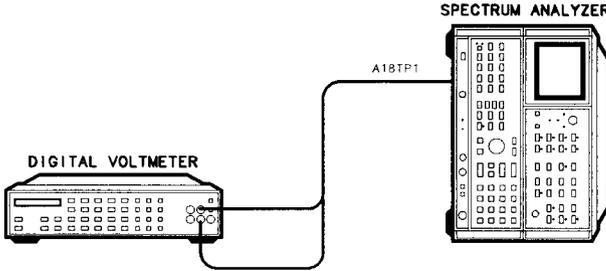

Figure 3-61. 275 MHz Phase Lock Oscillator Adjustment Setup
1. Place instrument on right side with IF-Display Section facing right as shown in Figure 3-61 with bottom cover removed.